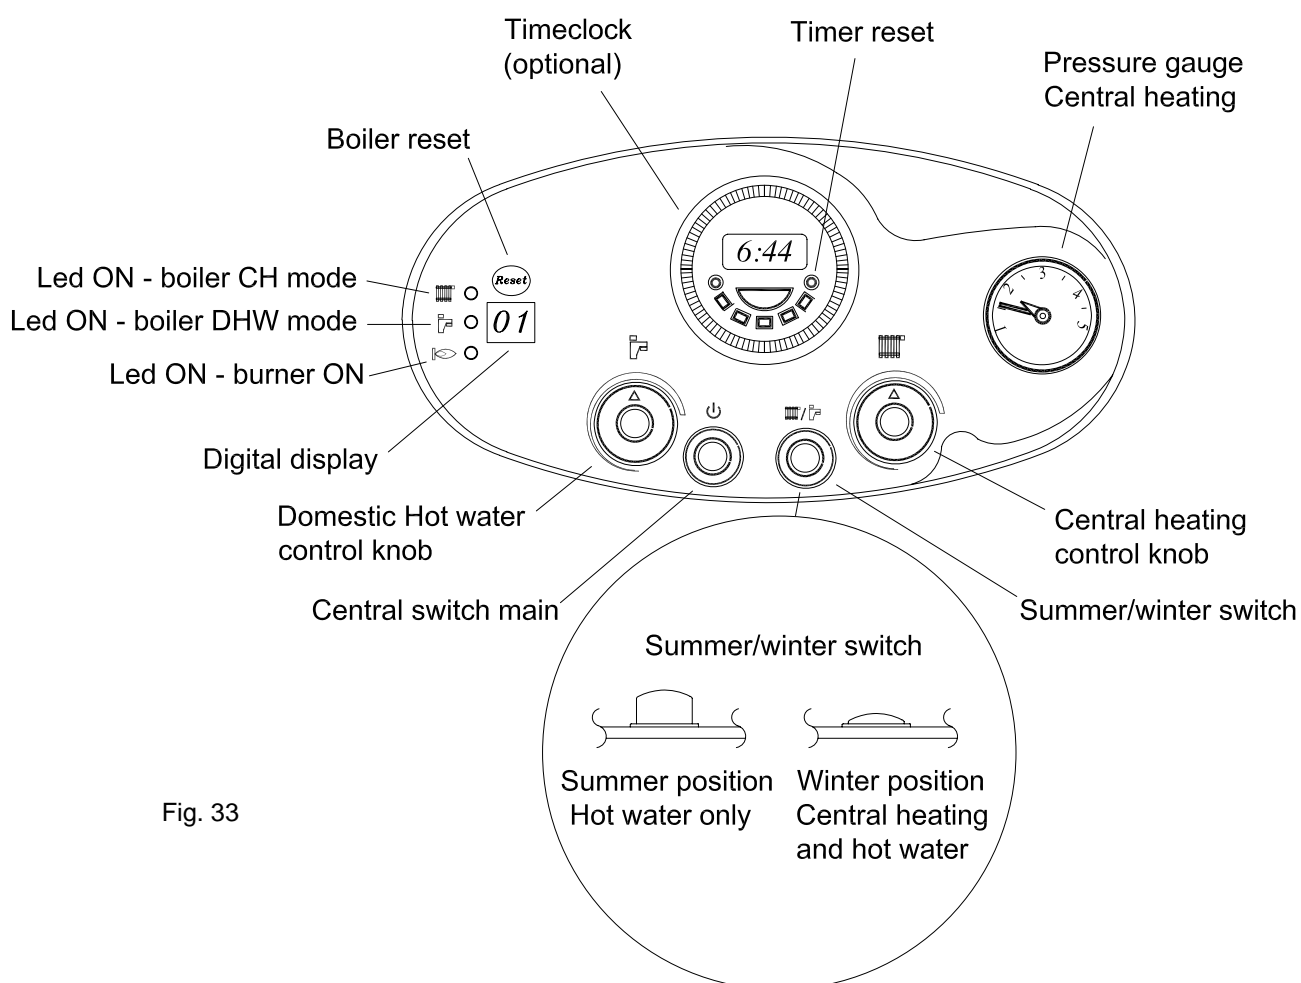

Fig. 33
- Push Summer/Winter switch Fig.33 to Winter.
Before switching on the boiler POWER SWITCH FOR THE FIRST TIME when commissioning, turn the heating control knob (Fig.33) DOWN TO ITS MINIMUM setting leaving it at minimum for approx 5 mins to purge air safely from the boiler heat exchanger.
- Turn control knob (Fig.33) down to its **minimum** setting.
- Push the power main switch to on (Fig.33)
Put the timer to on position (Fig.33).
- If necessary push the boiler Reset button (Fig.33) and the boiler will restart automatically.
- 6.12.2** Put the appliance in summer position with the summer/winter switch (Fig.33).
- Open a domestic hot water tap (preferably the bath tap). Ensure cold water inlet stopcock is open and the D.H.W. control knob (Fig.33) is set at maximum.